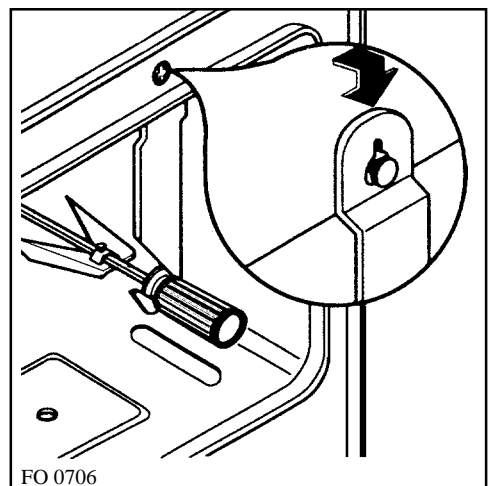

Fig. 13 FO 0706
1. fit the spit-holder hook on its support (fig. 13);
3. insert the point of the spit into the turnspit motor drive hole and rest the front part of the spit on the hook (fig. 13);